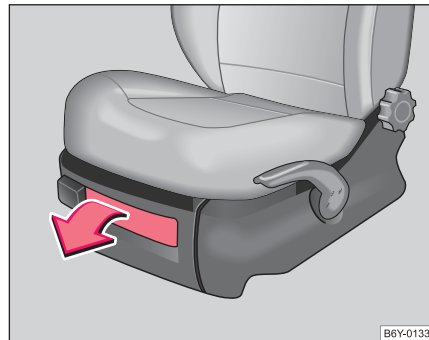

Fig. 74 Front seat:
- Tilt the lock to open the flap and pull out the flap ⇒ fig. 74.